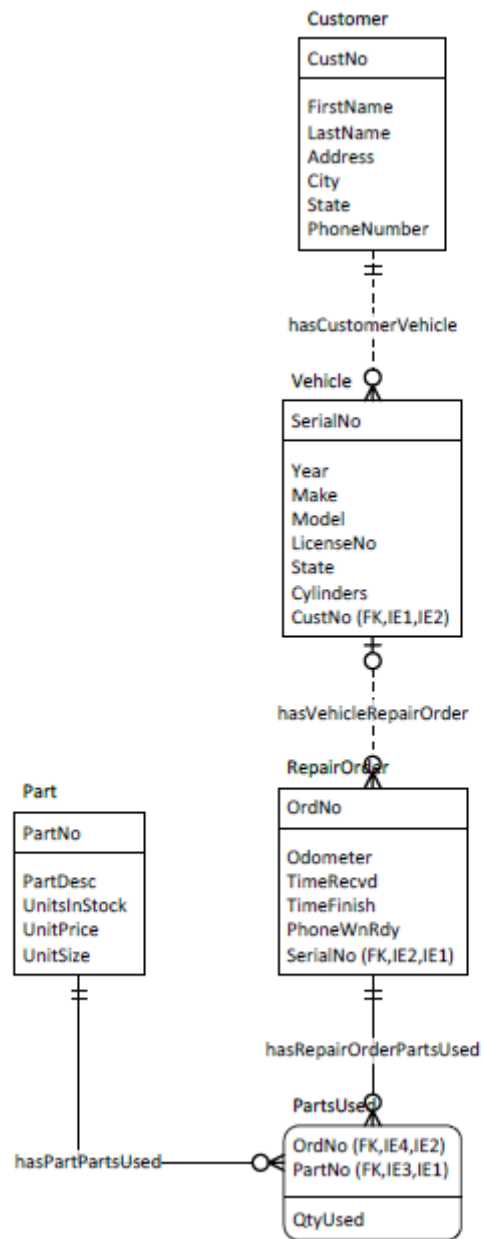

Figure 69: ERD for the Auto Repair Database after Conversion
8. Lay out and View the New ERD: Select all entities in the Tables window. Drag and drop them to the drawing area. Visio Professional automatically lays out the ERD. Close the Tables window and enlarge the drawing area to see the new ERD. The new ERD created from the auto repair database appears as shown in Figure 69. The relationship names are default names generated by the Reverse Engineer Wizard. To complete the ERD, you should change the relationship names and examine the minimum cardinalities on the “many” sides of relationships. You also may want to use the automatic layout feature to achieve a more readable layout and consider using categories to capture implicit generalization hierarchies in the relational database.